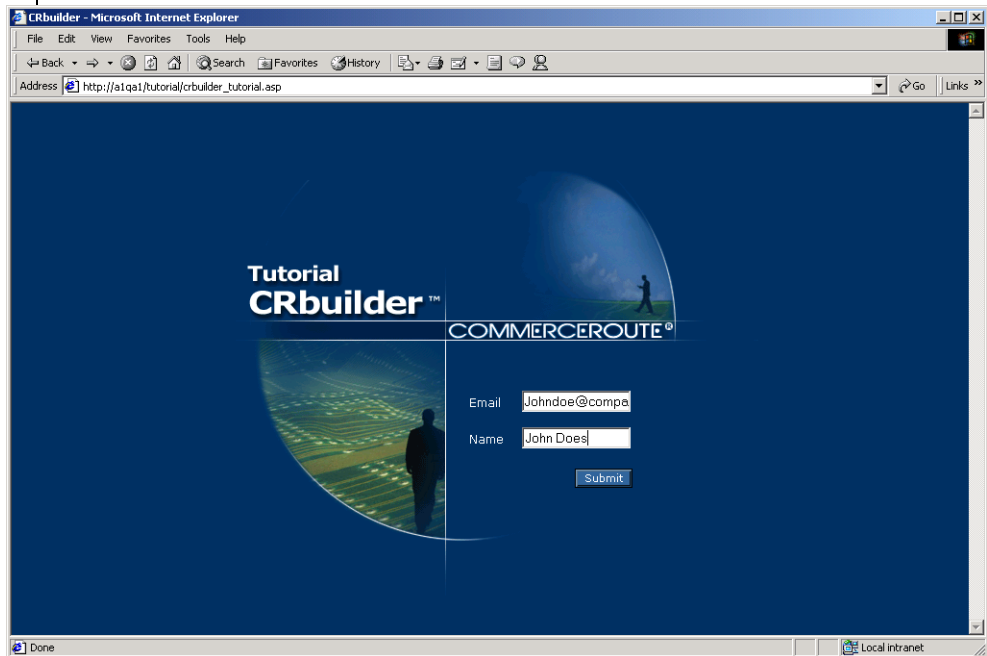

Figure 28-43. The BeginTutorial.asp with requestor's name and e-mail entered.
- ② Enter your e-mail address, name, and click **Submit**. Compare your work to Figure 28-43, below.